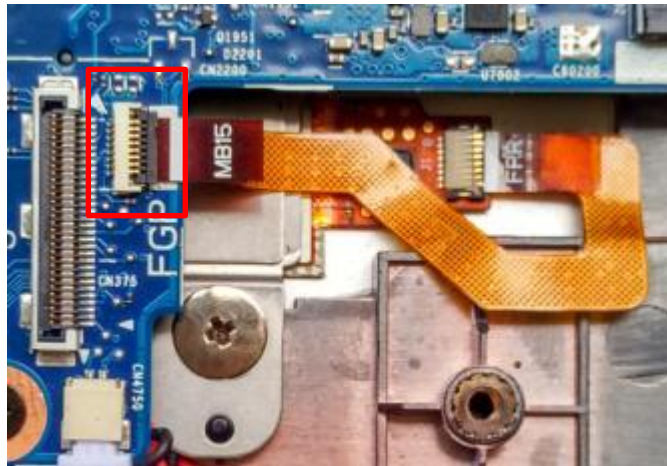

Fig.4
5. Disassemble FPR FFC(Fig.4).